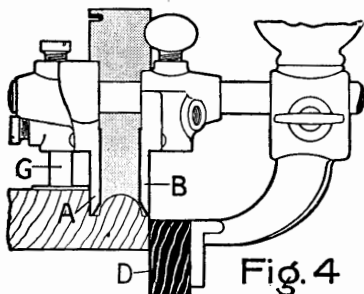
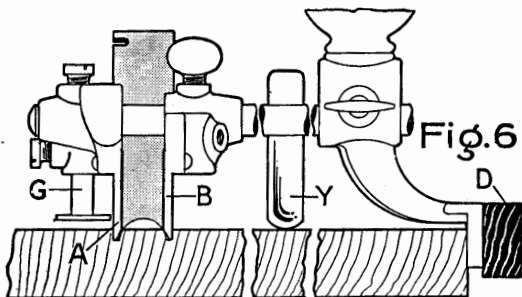

Fig. 4
Fig. 6
**Fig. 4—BEADING**—For ordinary Beading place Sliding Section (B) so that the outside of same is in line with left side of the cutter. Fence (D) gauges the distance of bead from edge of board, and Gauge (G) depth of cut. Spurs not used.
**Fig. 6—CENTER BEADING**—Attach Cam Rest (Y) to either Arm between Sliding Section and Fence to steady Plane. Attach Fence as in Fig 4, and Plane will cut bead five inches from edge of stock. Set as in Fig. 6 and it will cut bead eight inches from edge. Gauge (G) is used as in ordinary beading. No Spurs required.